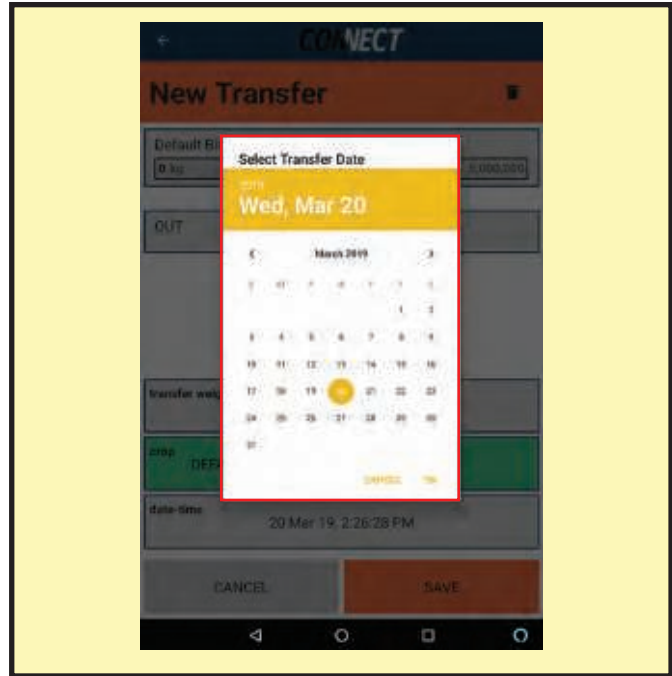
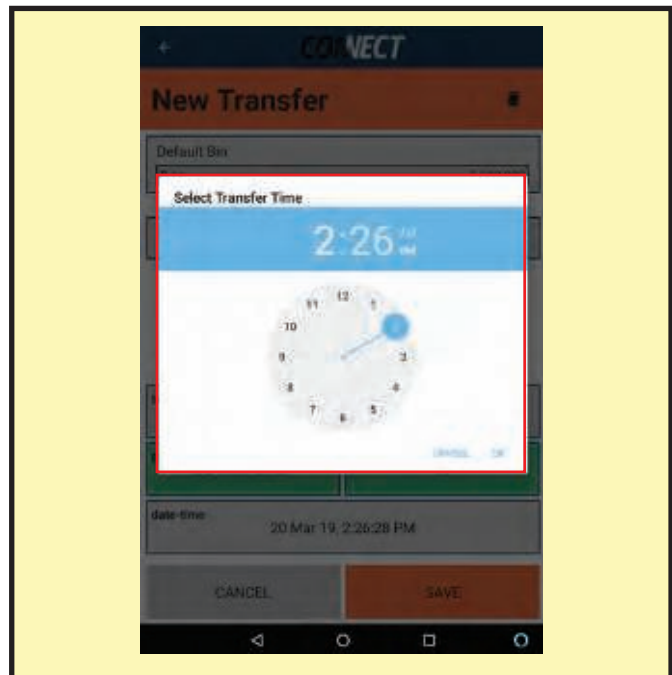

FIG. 69 TRANSFER DATE
FIG. 70 TRANSFER TIME
9. Touch Start Date-Time and End Date-Time to edit their times. See "**FIG. 69 Transfer Date**" and "**FIG. 70 Transfer Time**" for date-time instructions.